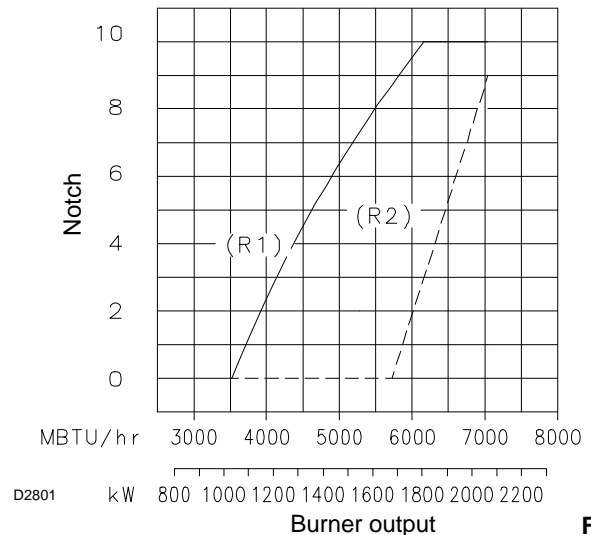

Fig. 16
In diagram (Fig. 16) find the notch for:
If we consult diagram (Fig. 16) we find that for this output the adjustments are:
R2 adjustment (Fig. 16) is an indication only.
- combustion head adjustment as indicated in Fig. 16, page 21.